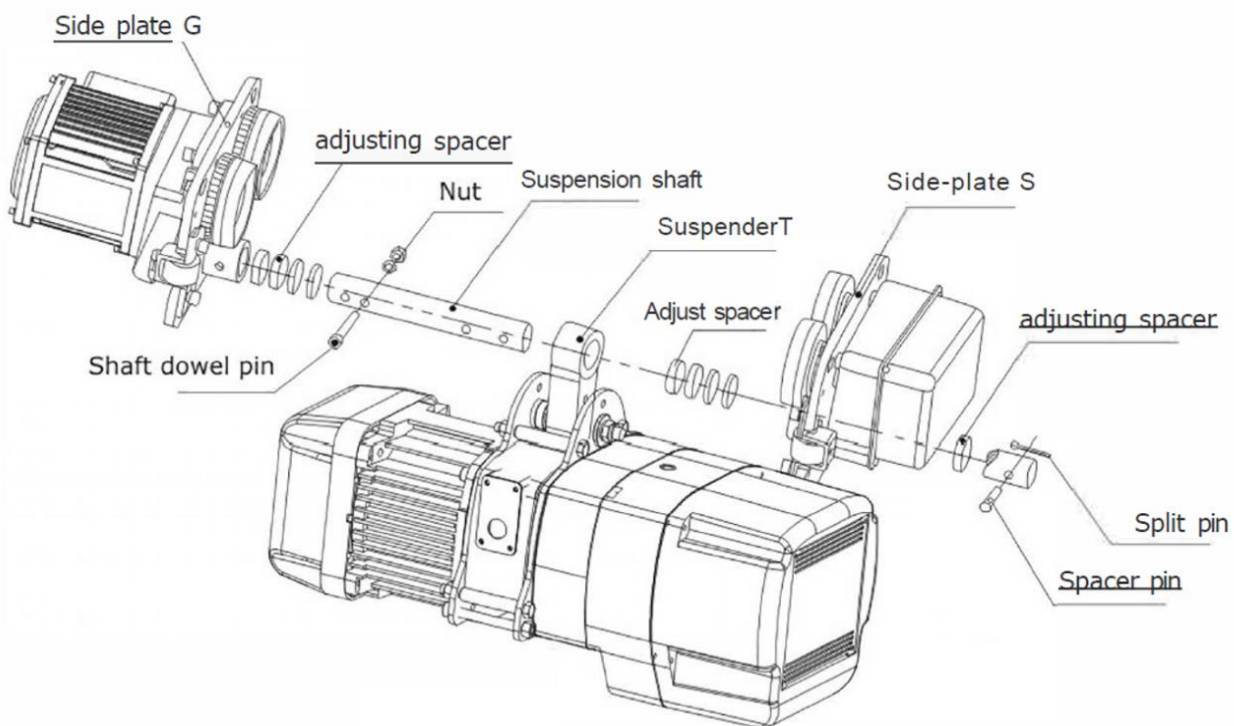
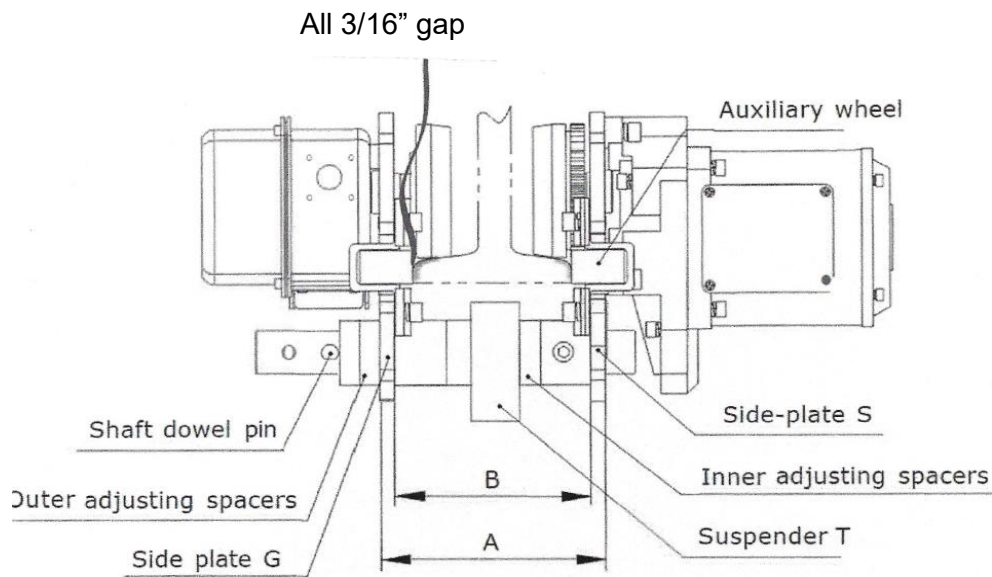

Fig 4.6
Fig 4.7
4.3 Follow (Fig 4.6) step by step installing the suspension lug into the **hoist** body first then install the trolley suspension shaft, with adjusting spacers, into the trolley Side Plate S.
4.4 Install more adjusting spacers to take up slack on the suspension shaft outside Side Plate S, then install Spacer Pin and Split Pin in hole A, (Fig 4.6)
5.1 Using Fig 4.7, allow 3/16" gap (as instructed below in Fig 4.7) between auxiliary side guide wheels and the beam flange so that trolley can roll freely on the beam but not be too tight or too loose.
5.2 To set the spacing between the trolley auxiliary side guide wheels 3/16" larger than the beam flange width, begin by installing some of the inner adjusting spacers, Fig 4.7, on the suspension shaft. (Paying attention to orientation of holes A & B as shown in Fig 4.8). Next, install the hoist lug centering the lug between the side plates G & S, Fig 4.6, as closely as possible to centerline of I-beam. Add additional inner spacers to make the 3/16" gap. (Beam flange width + 3/16" = distance between side guide wheels. Adjust with spacers accordingly and install as many of the outer spacers on the suspension shaft as possible and put the spacer pin and split pin in hole A, Fig 4.8).
6.5 Raise trolley up into position and set geared trolley wheels (RH side in drawing), as shown in Fig 4.6, on beam flange.
6.6 Push trolley idler wheels (LH side in drawing) onto the beam flange, as shown in Fig 4.6.